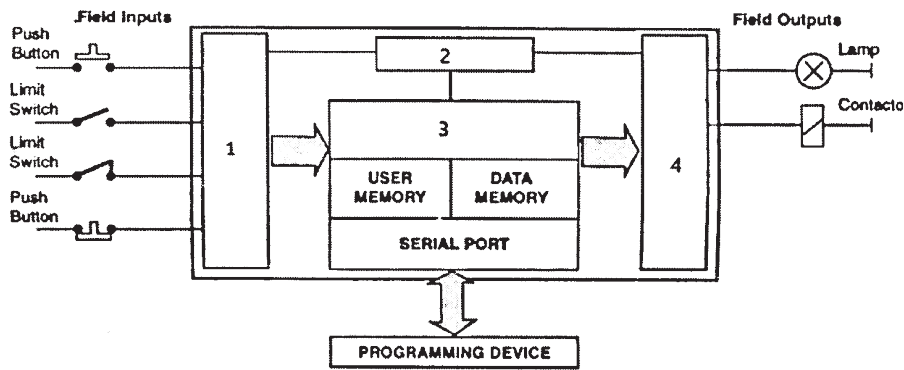

Fig. No. 2
- a) Identify the name of the block diagram in Figure No. 2 and name the components labelled as 1, 2, 3, 4 Redraw labelled diagram.